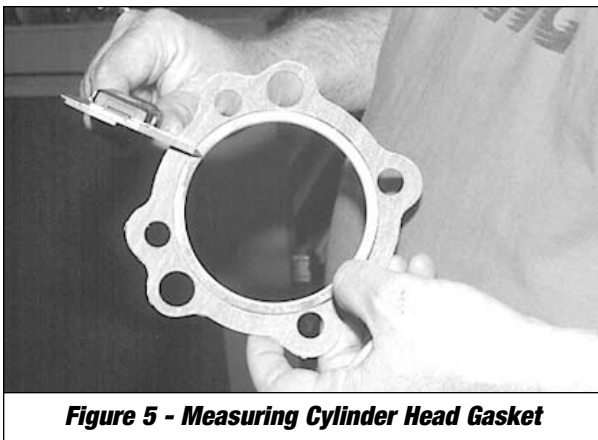

Figure 5 - Measuring Cylinder Head Gasket
2. You may use standard Harley-Davidson® head gaskets, if desired. They vary in thickness, so it is advisable to measure your gasket before use (See Figure 5). Recommended thickness is .045".